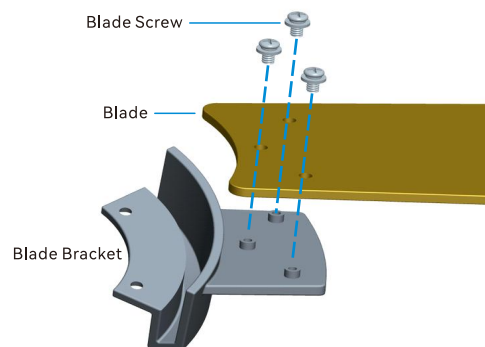

Fig 1.1
1.1 Locate the 15 blade attachment screws in the hardware pack. Use the blade screws to secure each blade to the blade bracket as shown in Fig 1.1.